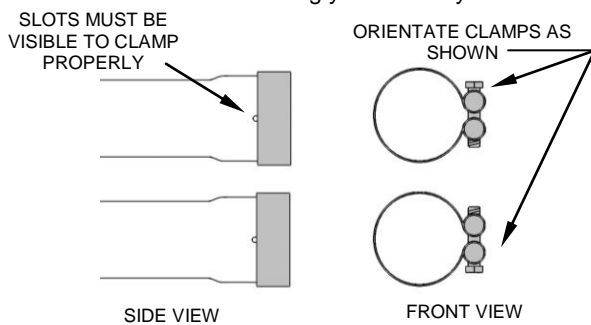

FIGURE 3
9. Remove the muffler assembly from the box and slide one supplied clamp #27-61MSC onto each muffler tube. Refer to Figure 3 for proper alignment.
13. To install the front heatshield, first slide the rear portion of the heatshield over the muffler, continue to slowly slide it forward pushing the front of the shield gently into place between the frame and motor (Hint: Spread the hose clamps apart slightly to make it easier to slide them over the muffler assembly and headpipes). Make sure the muffler clamps do not interfere with the heatshields and are aligned as shown in Figure 3. Snug the heatshield clamps but **DO NOT TIGHTEN**.